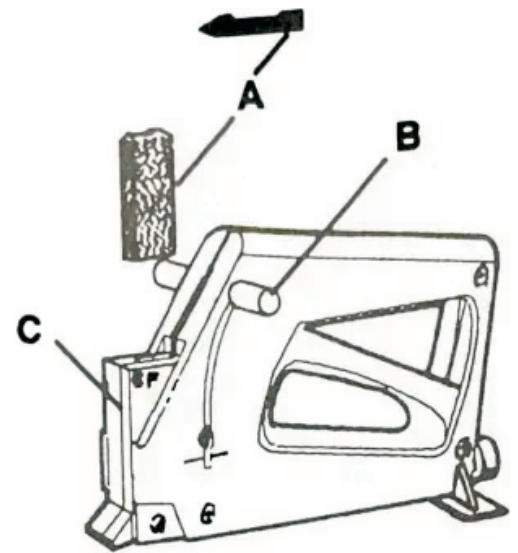

Figure 1
1. To insert a stack of framing points (A) pull follower knobs (B) up and rotate to the locked position. Figure 1.